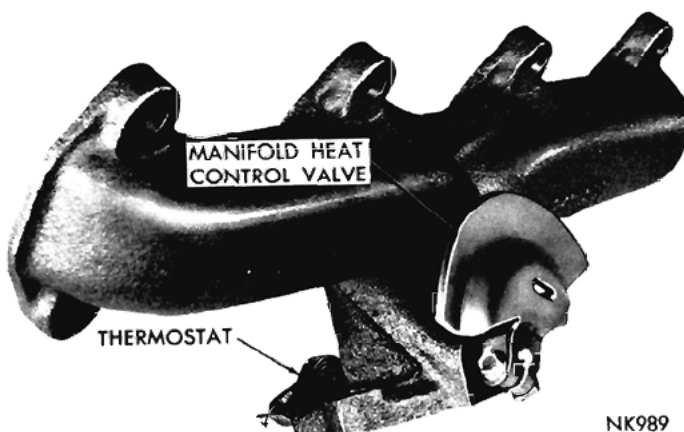

Fig. 18—Manifold Heat Control Valve (318 Cu. In. Engine)
(1) Remove the counterweight and the bumper from the outer end of the valve shaft by loosening the clamp bolt (Figs. 18 and 22).
(1) To replace the thermostat on the inner end of the valve shaft, first remove the anti-rattle spring (Figs. 18 and 22).
(2) Unhook the thermostat from the stop pin and slide from the valve shaft.